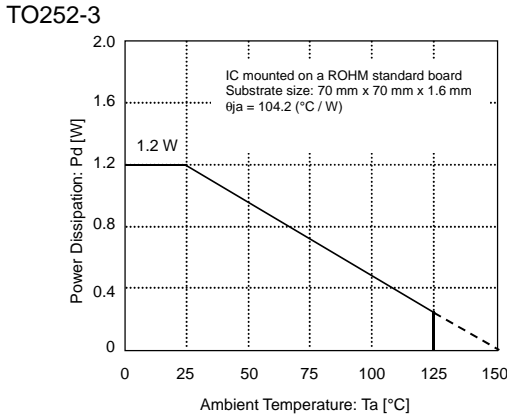

Figure 20
Refer to the heat mitigation characteristics illustrated in Figure 20, 21 and 22 when using the IC in an environment where $T_a \geq 25 \text{ }^\circ\text{C}$. The characteristics of the IC are greatly influenced by the operating temperature. If the temperature is in excess of the maximum junction temperature T_{jmax} , the elements of the IC may be deteriorated or be damaged. It is necessary to give sufficient consideration to the heat of the IC in view of two points, i.e., the protection of the IC from instantaneous damage and the maintenance of the reliability of the IC in long-time operation.
In order to protect the IC from thermal destruction, it is necessary to operate the IC in temperatures not exceeding the maximum junction temperature T_{jmax} . Figure 20 illustrates the power dissipation/heat mitigation characteristics for the TO252-3 package. Operate the IC within the power dissipation (P_d) capabilities. The following method is used to calculate the power consumption P_C (W).